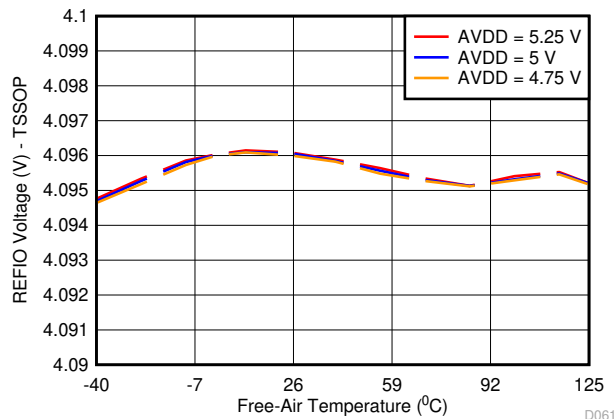

图 7-10. REFIO Voltage Variation Across AVDD and Temperature (PW Package )
The internal reference is also temperature compensated to provide excellent temperature drift over an extended industrial temperature range of  $-40^{\circ}\text{C}$  to  $+125^{\circ}\text{C}$ . 图 7-10 and 图 7-11 show the variation of the internal reference voltage across temperature for different values of the AVDD supply voltage. The temperature drift of the internal reference is also a function of the package type. 图 7-12 and 图 7-13 show histogram distribution of the reference voltage drift for the TSSOP (PW) and WQFN (RUM) packages, respectively.